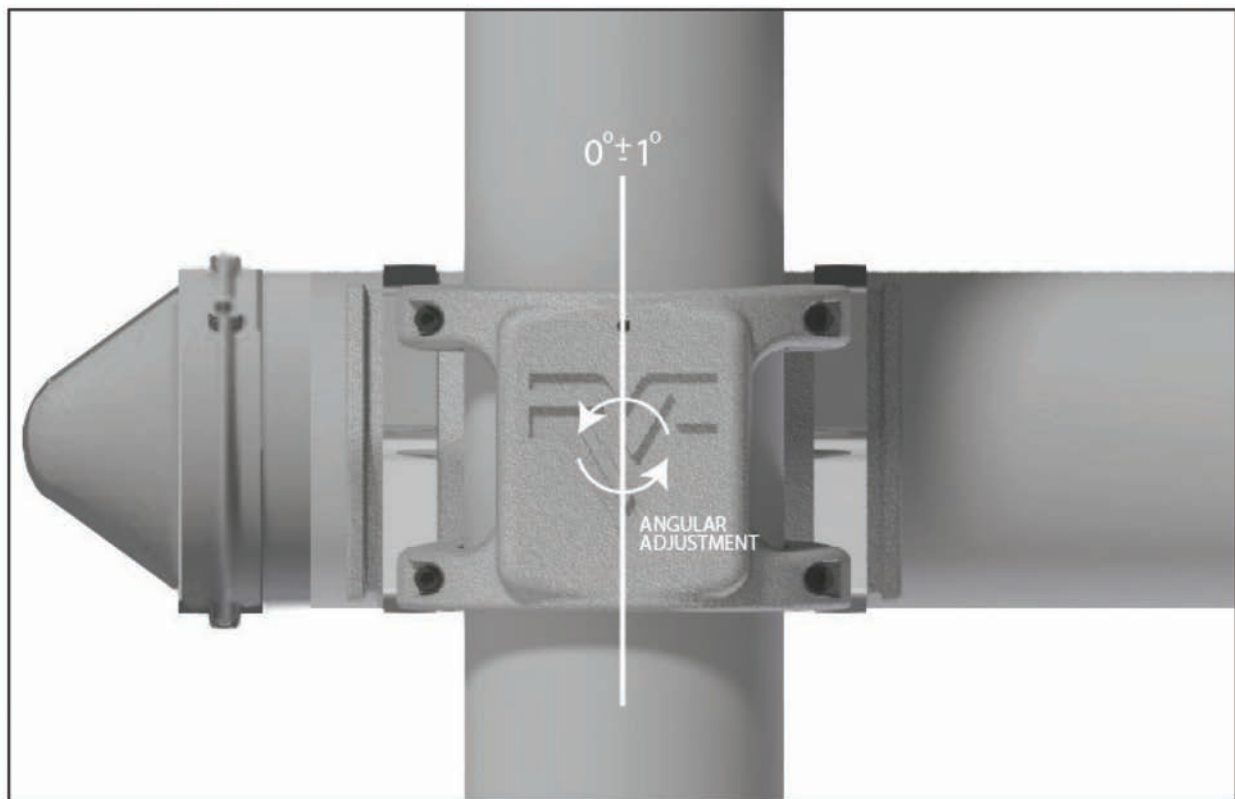

Figure 5
5) ROTATE THE TR1 CLAMP TO BE PLUMB VERTICALLY (0 +/- 1 DEGREE), AND TIGHTEN THE TWO HEX HEAD BOLTS TO SNUG, THEN AN ADDITIONAL 3/8 TURN. (See Figure 5)